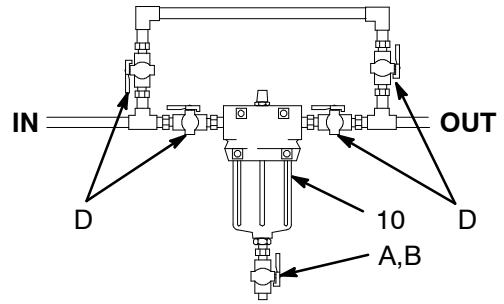

Fig. 1 Filter Bypass System
The numbers and letters in parentheses refer to Figs. 1, 2, and 3 and the Parts Drawing. **Accessories** and **Technical Data** are on the page 5.
Install the filter and bypass pipes as shown in Fig. 1. Install four suitable shutoff valves (D), one each at the filter inlet, the filter outlet, the bypass pipe inlet, and the bypass pipe outlet. These valves redirect the fluid and isolate the filter while cleaning and servicing.